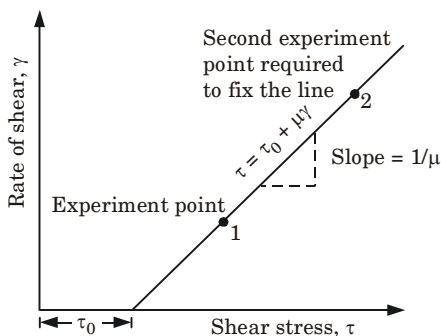

Fig. 3.10.1. Bingham model.
6. The minimum stress is called yield stress and designated by the symbol τ_0 . Thus the simplest flow equation of concrete illustrated in Fig. 3.10.1 can be written as :